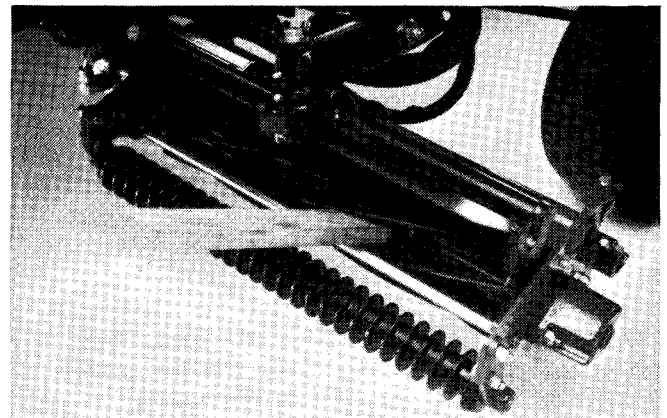

Figure 20b
6. With cutting units in RAISED position and engine OFF, insert a block of hardwood, as shown in Figure 20b, between cutting unit reel blades and front cross tube of left-rear (No. 2) cutting unit to prevent reel from turning.